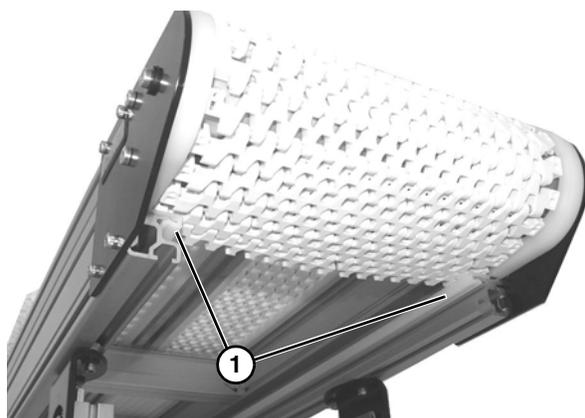

Figure 16
- Install belt around lower frame section and above lower wear strips (**Figure 16, item 1**).